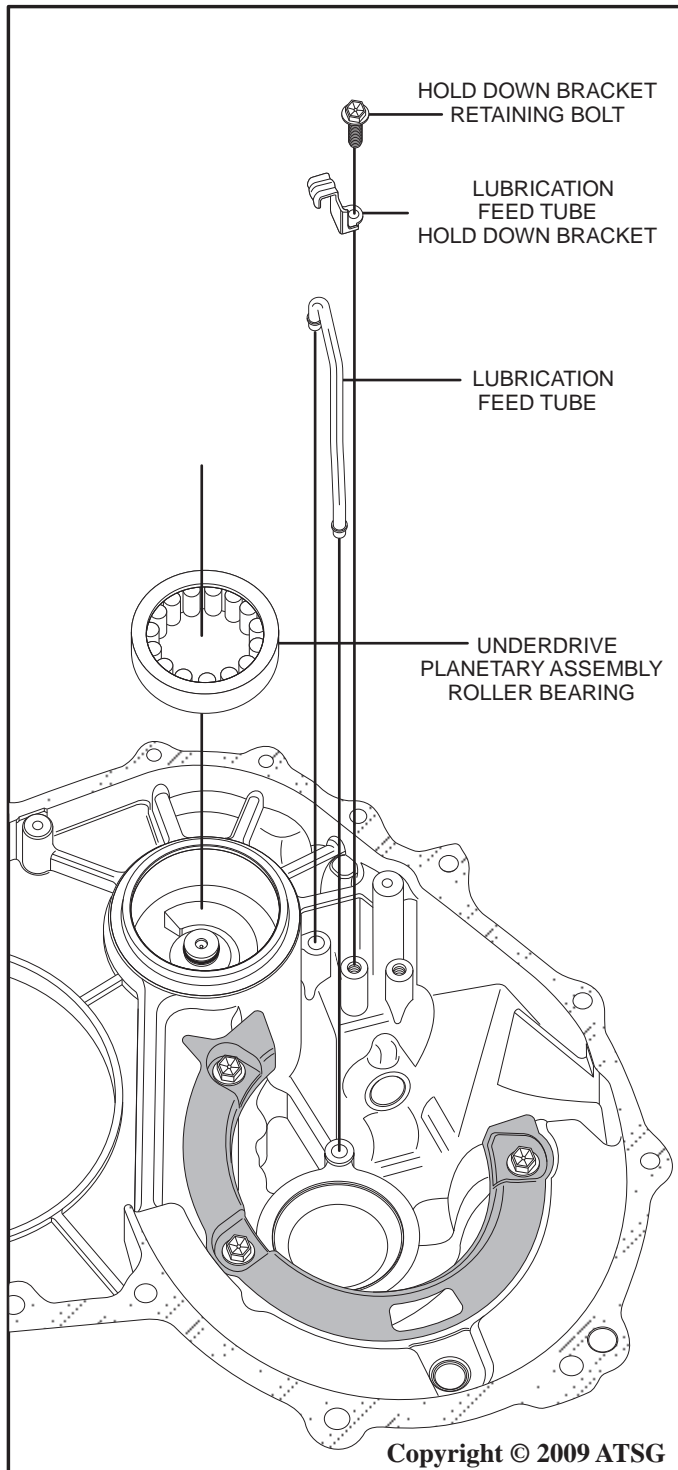

Figure 62
4. Using SST 09514-35011 or another suitable bearing removal tool such as a pilot bearing removal tool, remove the underdrive planetary assembly roller bearing as shown in Figure 62.
5. Remove the hold down bracket retaining bolt and the lubrication feed tube hold down bracket as shown in Figure 62.
6. Using a small screwdriver, carefully pry the lubrication feed tube from the case being careful not to bend or crack the feed tube as shown in Figure 62.